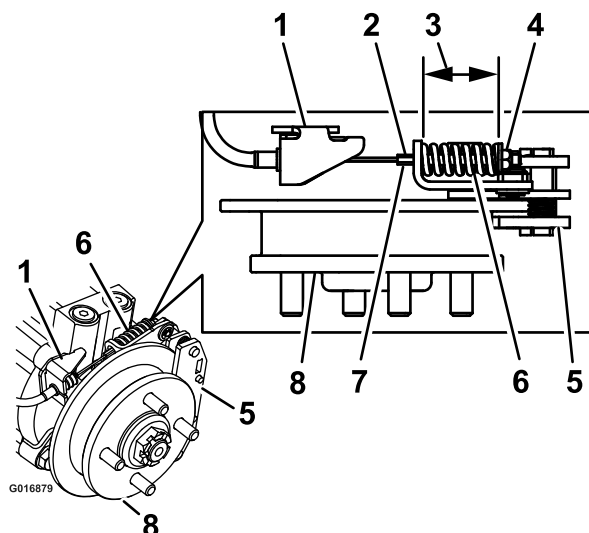

Figure 76
9. Hold the threaded rod end with a tool and adjust the lock nut until the spring length is between 1-1/2 and 1-9/16 inches (3.8 and 4.0 cm) (Figure 76). Do Not allow the cable to turn when the nuts are being loosened.